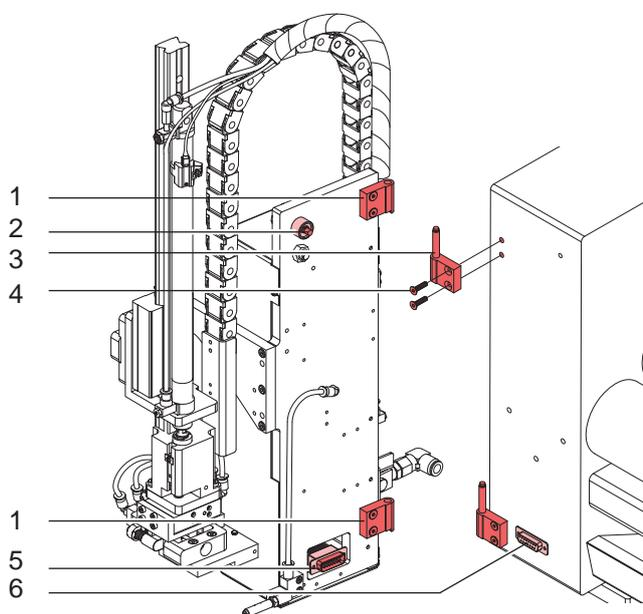

Fig. 4 Mounting and Connections
1. Mount hinges (1 and 3) like in Fig. 4 .
2. Hang applicator with the female parts (1) of hinges at the printer mounted hinges parts (3).
3. Plug the SUB-D15 applicator-printer interface (5) into the connector (6) of the printer.
4. Swing the applicator to the printer and tighten the knurled screw (2) at the printer.